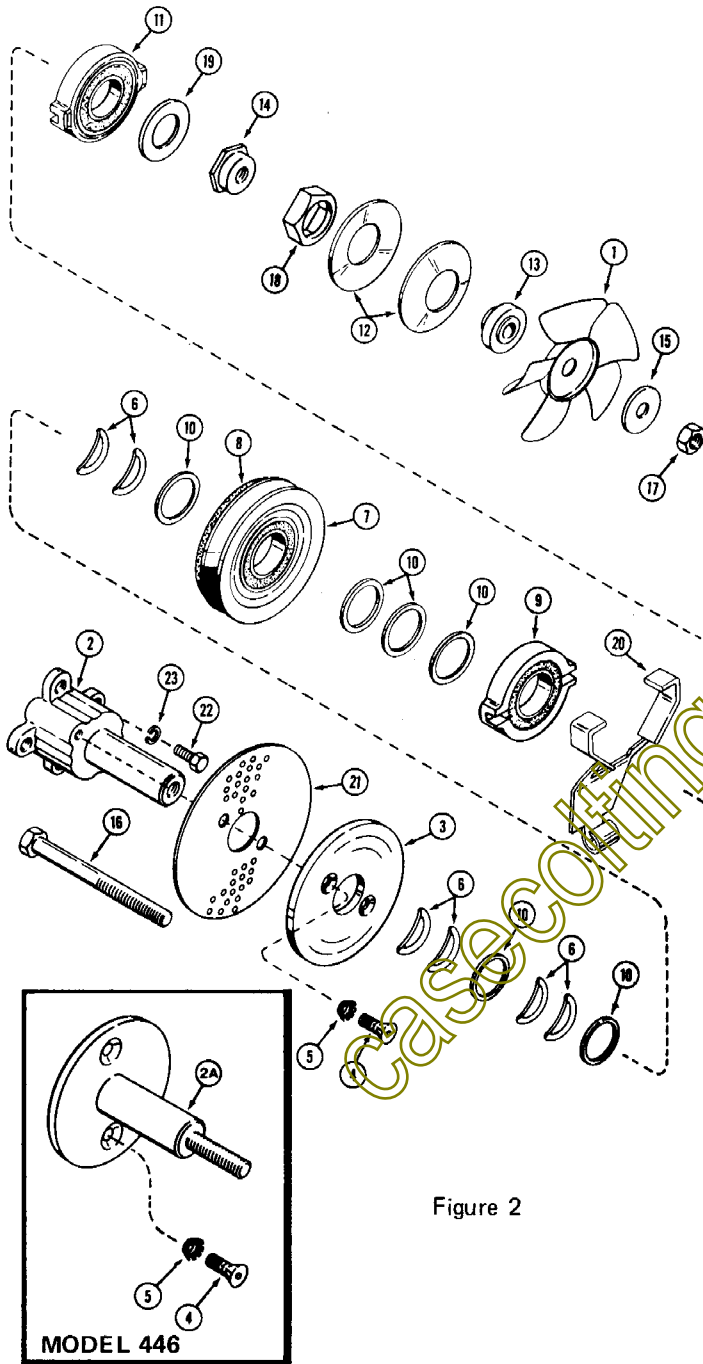

Figure 2
1. Follow steps for CLUTCH DISC CLEARANCE ADJUSTMENT . . . GAIN ACCESS TO CLUTCH. See Figure 2.